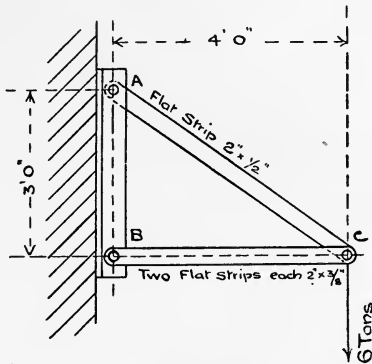

Fig. 3.
6. In the framework shewn in Fig. 3, the bars AC , BC are freely hinged at C and hinged freely to the points A and B which are to be regarded as absolutely fixed.